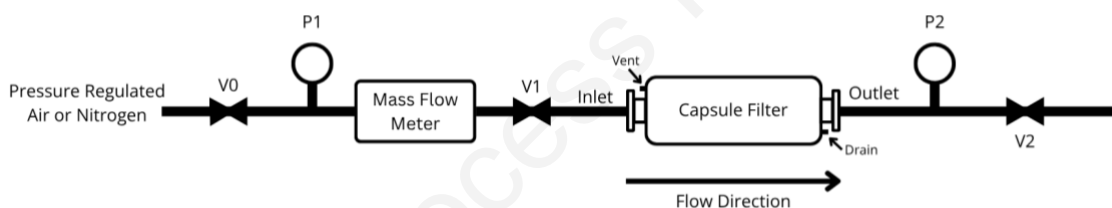

Figure 1: Capsule Diffusion Testing
2. Typical setup for diffusion testing using a mass flow meter is shown in Figure 1.